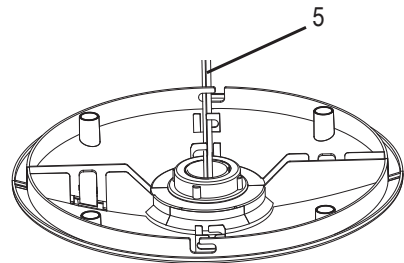

Fig. 6
1. Unscrew locking ring (4) from the bottom of the fan housing
6. Secure power cord (5) to bottom of Base (2 & 3) by routing through tabs on base. Refer to Fig. 6.